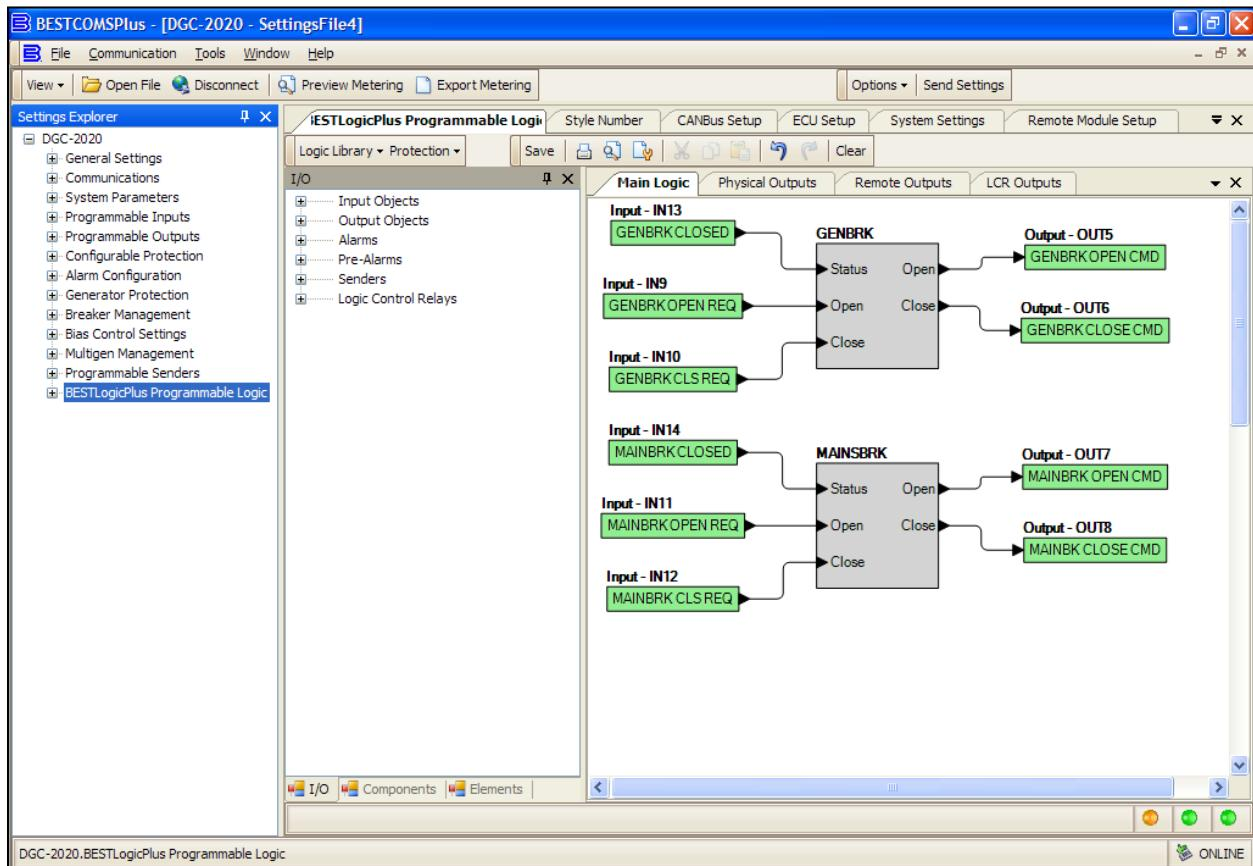

Figure 6-83. Settings Explorer, BESTLogicPlus Programmable Logic
4. Set up the Mains Breaker and Gen Breaker in BESTCOMSPlus under SETTINGS EXPLORER→BESTLOGICPLUS PROGRAMMABLE LOGIC. See Figure 6-83.